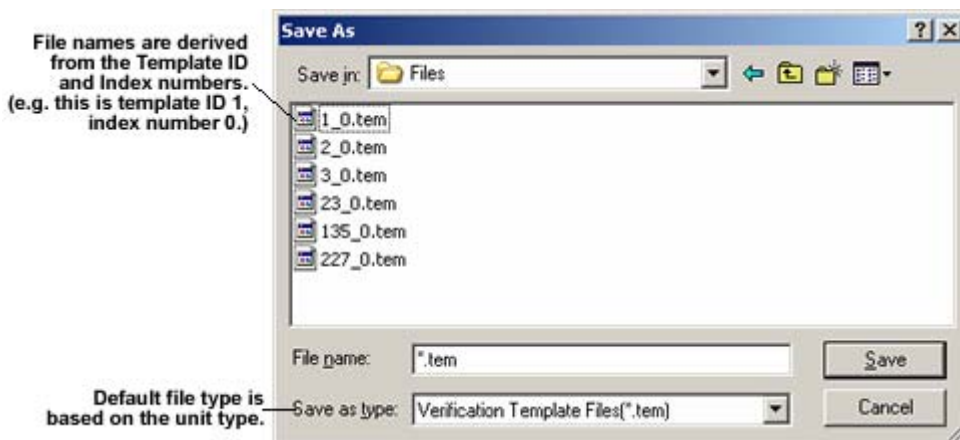

Figure 23: Download Template(s) to PC
3. When the screen in Figure 23 appears, confirm the download path and directory; make any applicable changes.